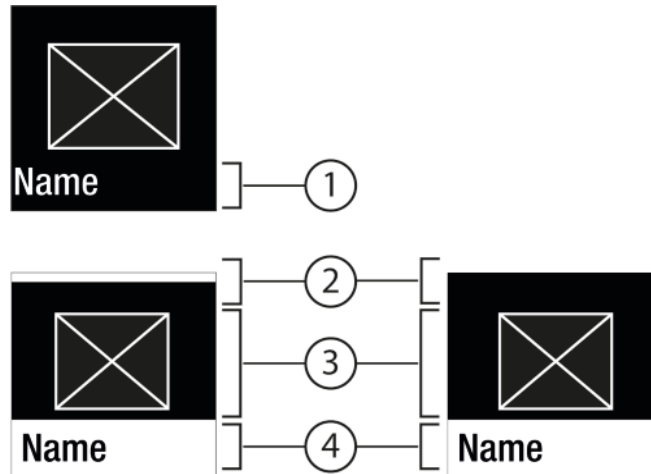

Fig. 7
- Press Confirm Fig. 5 (2) to open the submenu Fig. 7 (4).
- ▷ Status: On *Fig. 6 (1)* appears briefly in the submenu *Fig. 7 (4)*.